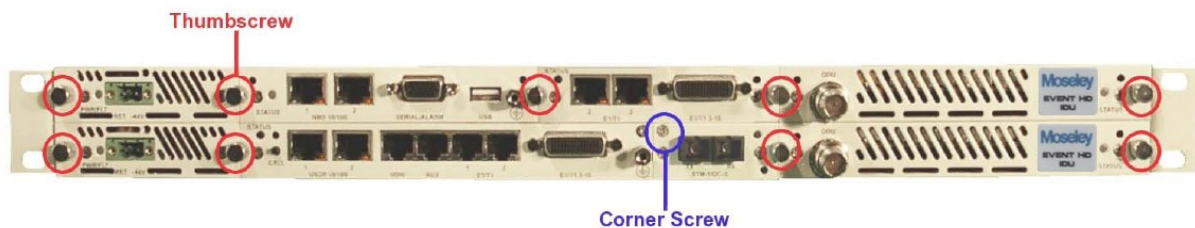

Figure 3-23. Thumbscrew and Corner Screw Locations
11. Remove the two thumbscrews on either side of the module. Figure 3-23 shows the locations of these thumb screws.
- c. When removing only the Mini IO card, remove the corner screw indicated in Figure 3-23 and one thumb screw.
- a. The Mini IO card has a corner screw, which should be installed. This corner screw is shown in Figure 3-23.